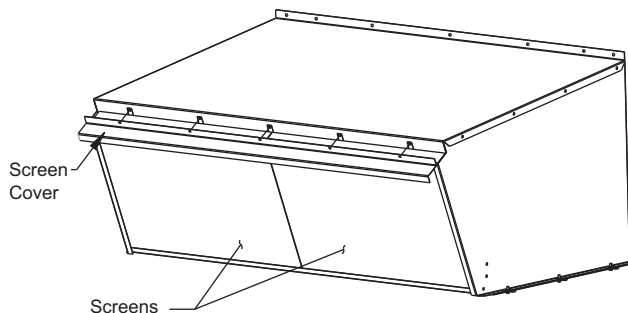

Fig. 18 — Outdoor Air Hood Screens
2. Remove the screen cover. See Fig. 18 for cover and screen locations.